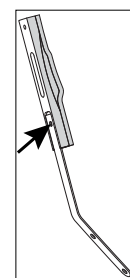

Figure 7
3. Remove the bolt on the brake pad with a 3 mm hex key (Figure 7).